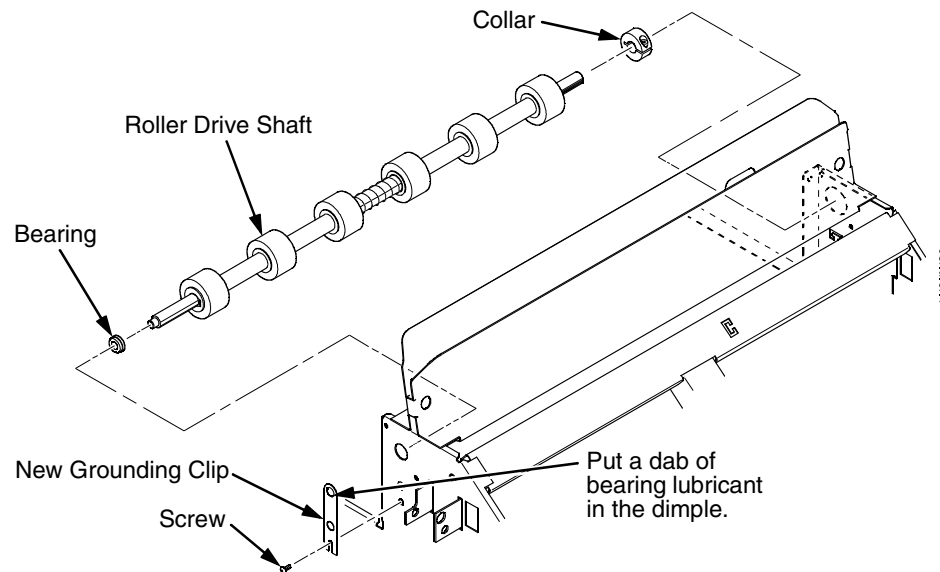

Figure 91. Roller Drive Shaft
9. Remove the roller drive shaft, taking care to retain the bearing at the left end of the shaft and the collar at the right end of the shaft. (Figure 91.)
10. Remove the bearing and collar from the old roller drive shaft and retain these items for installation on the new roller drive shaft. (Figure 91.)
11. Using an M-2 Allen wrench, remove the screw securing the grounding clip to the left side of the elevator. Discard the old grounding clip, but retain the screw so you can install a new grounding clip when you install the new roller driver shaft. (Figure 91.)
14. Apply a small dab of bearing lubricant to the dimple in the new grounding clip. Make sure this is the only area containing lubricant. (Figure 91.)